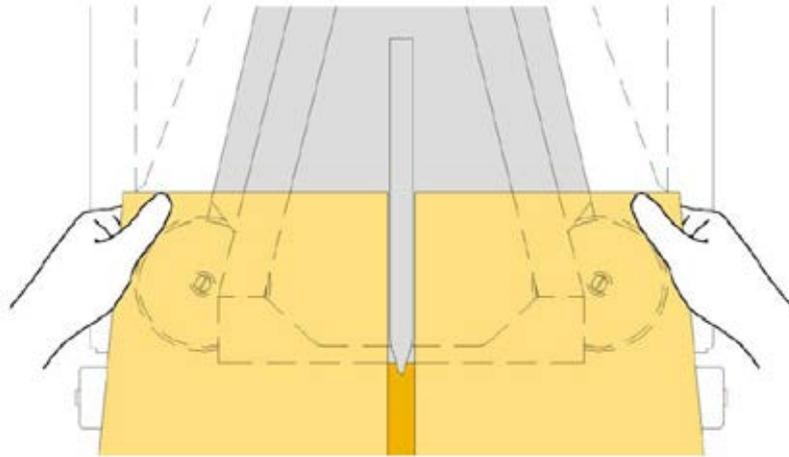

Figure 25 Loading Paper After Soft-Jam - Step 4
- b. **Step 2:** Tear the paper along the perforated line (refer to Figure 25).